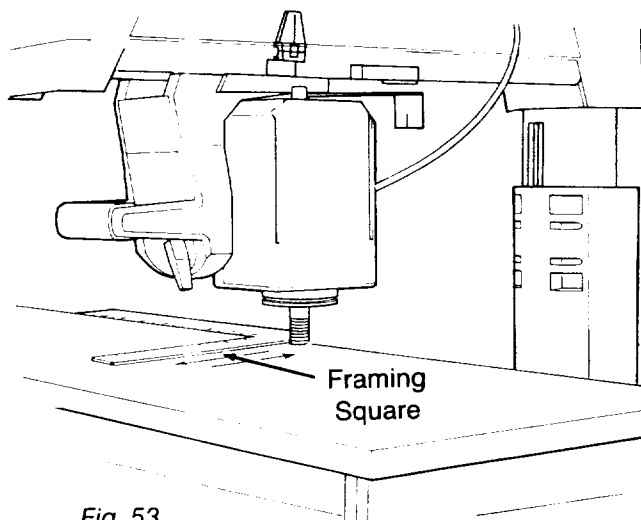

Fig. 53
7. Lay a framing square on the *front table* with the long edge along the back of the *table* and the short edge alongside the *motor arbor*. (Figure 53)
8. Move the framing square toward the *motor arbor* until the arbor and square touch each other. (Figure 53)
If the *motor arbor* moves away from the square or tries to “walk” on top of it, go to step 11. (Figure 53)